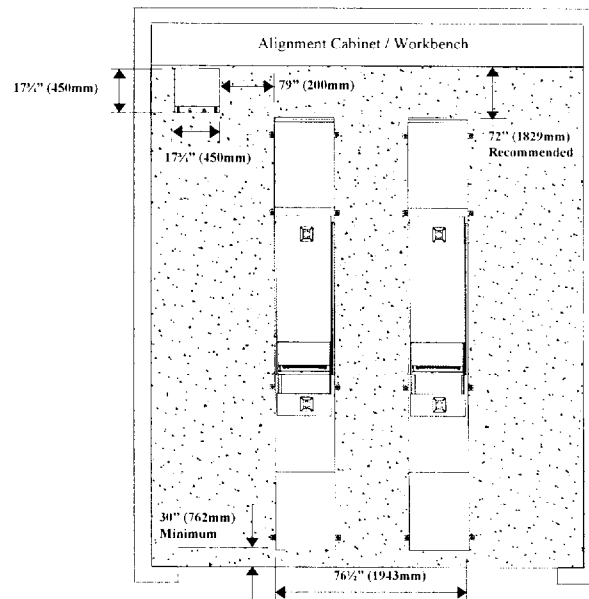

Figure 2: Typical Bay Layout
2. At the site, position both base frames with the runways on the foundation according to the drive-on direction of the lift (**Fig. 2**).